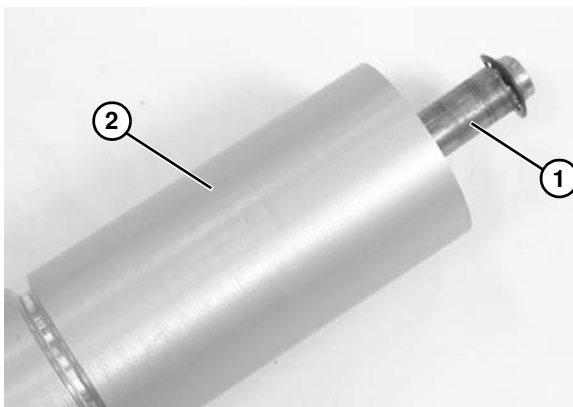

Figure 165
7. Slide the shaft assembly (**Figure 165, item 1**) out of the pulley (**Figure 165, item 2**).